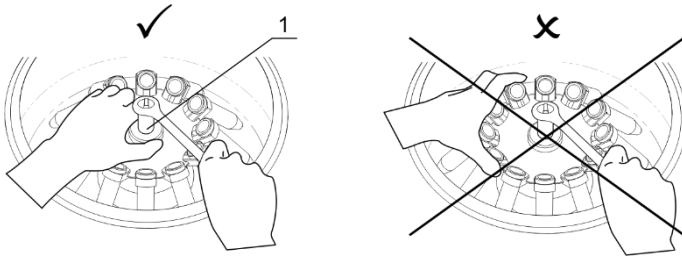

Figure 2. Rotor fixation
- Hold the rotor with one hand and, using the supplied wrench for rotor replacement (13 mm), turn the fixation screw (fig. 2/1) counter clockwise to release the rotor.
**Caution!** Do not hold the rotor by rings or adapters mounting when mounting and fixing it. Hold the rotor as shown correctly on figure 2 (✓).
**Caution!** Always ensure that the fixation screw on the rotor is holding the rotor tight! See 4.4 and figure 2 for fixation procedure